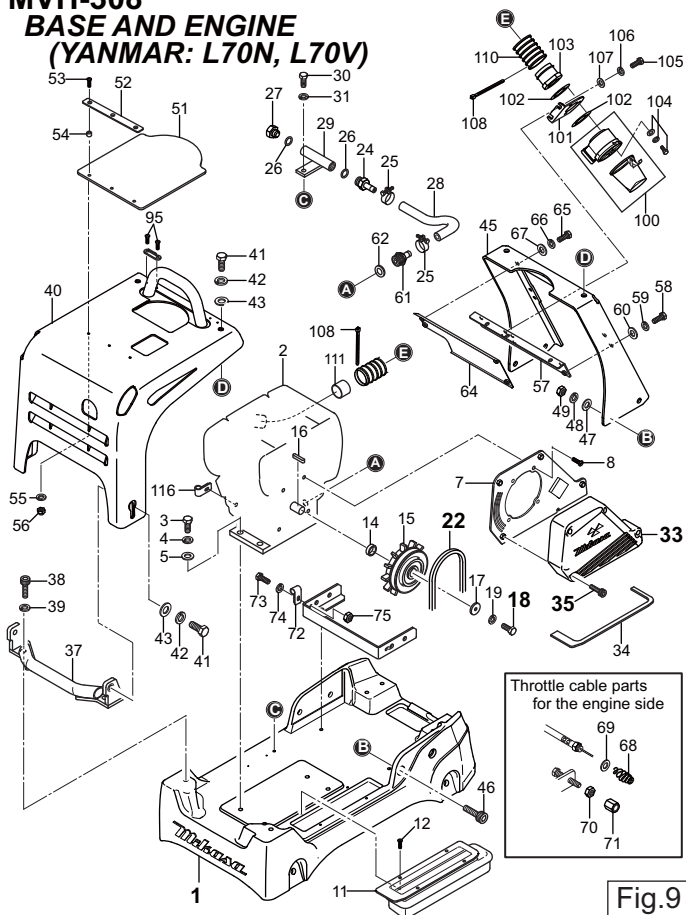

Fig.9
(1) Disassembly
- a. Remove 4 bolts (35), then remove the belt cover OUT (33). (Fig. 9)
b. Remove the V-belt (22).
c. Remove 4 bolts of anti-vibration rubber that are fixing the engine base(1). then engine base and vibrating plate AY are separated by lifting the lifting hook on main body. (Fig. 9)